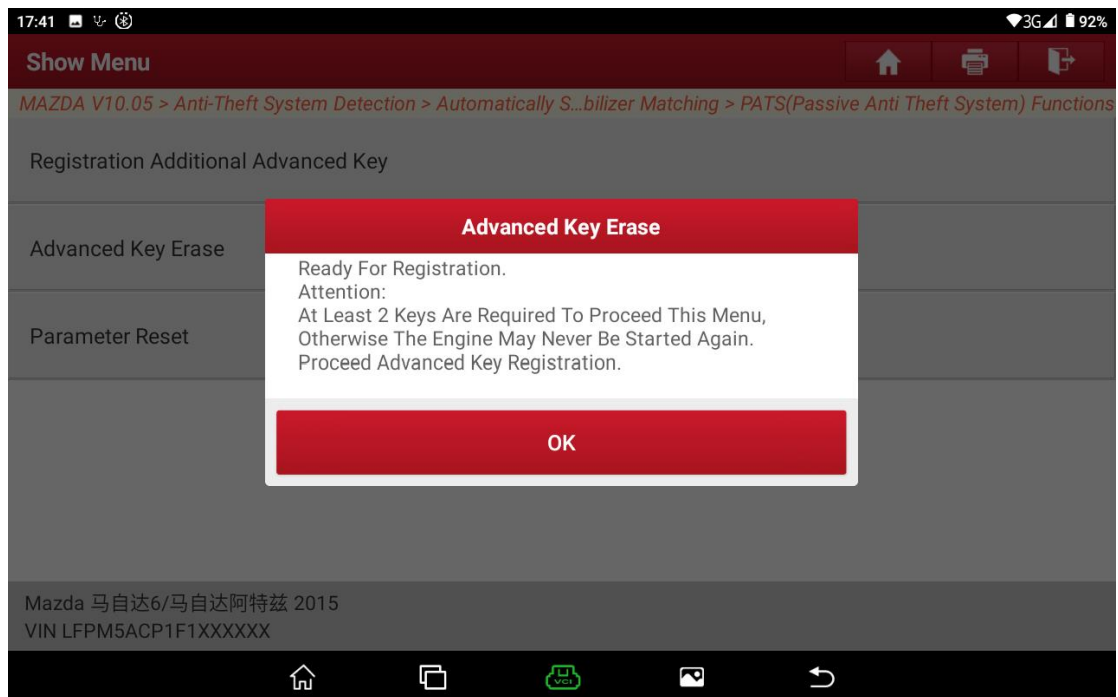

Figure 18
16. The execution conditions are displayed. See Figure 18.